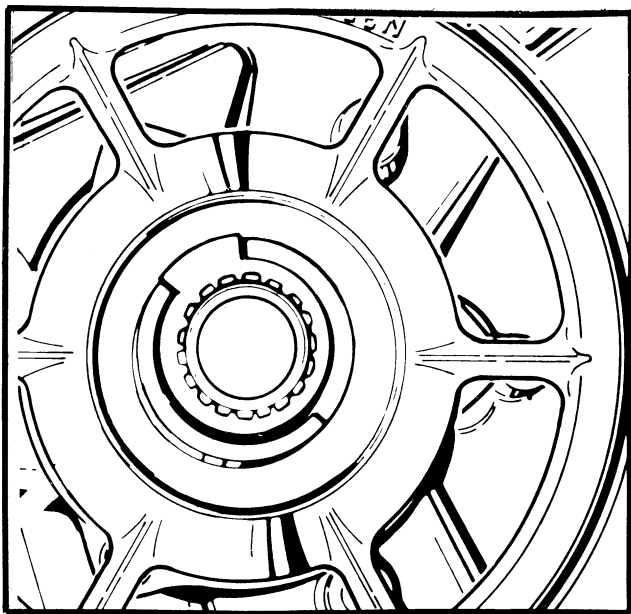

Figure 129
13. Refer to *Figure 129*. Looking down on the raised half moon on the spin pulley position stop tab. The tab should be next to the left side of raised half moon, turn stop away in a clockwise direction, one more spline.